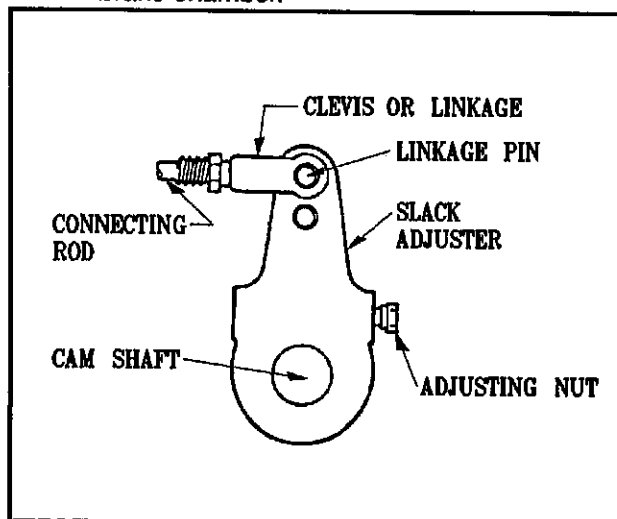

FIG. 6-1 SLACK ADJUSTER TERMINOLOGY
d. Remount the brake chamber on the axle brackets and reconnect the air service hoses and the slack adjuster connecting rod (See **FIG. 6-1**).
6-7.2 Drain the semitrailer air system of all air and moisture (See FIG. 6-1).
- Place a 9/16" box end or socket wrench on the slack adjuster adjusting nut (See FIG. 6-1), and push in on the locking sleeve.